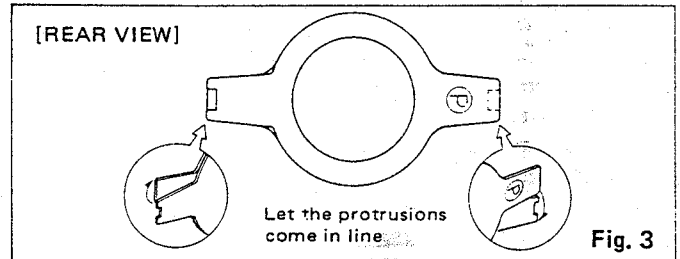

Fig. 3
2. Let the purity tabs come in line horizontally as is shown in Fig. 3.